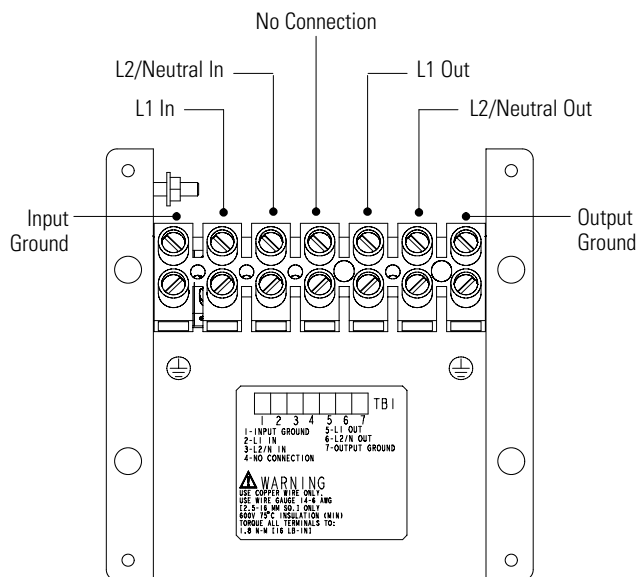

Figure 13. UPS Terminal Block
6. Connect the input and ground wires to the UPS terminal block according to Figure 13 and Table 1.
7. Connect the output and ground wires to the UPS terminal block according to Figure 13 and Table 1.